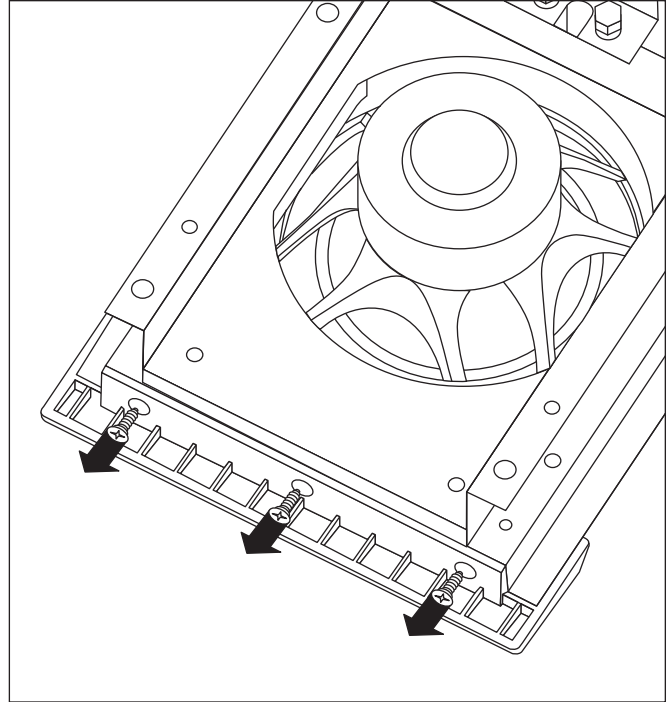

Figure 15. Removing the end caps step 3.
- 3 Using a Phillips head screwdriver remove three screws from the bottom edge of the Voyage (see figure 15).